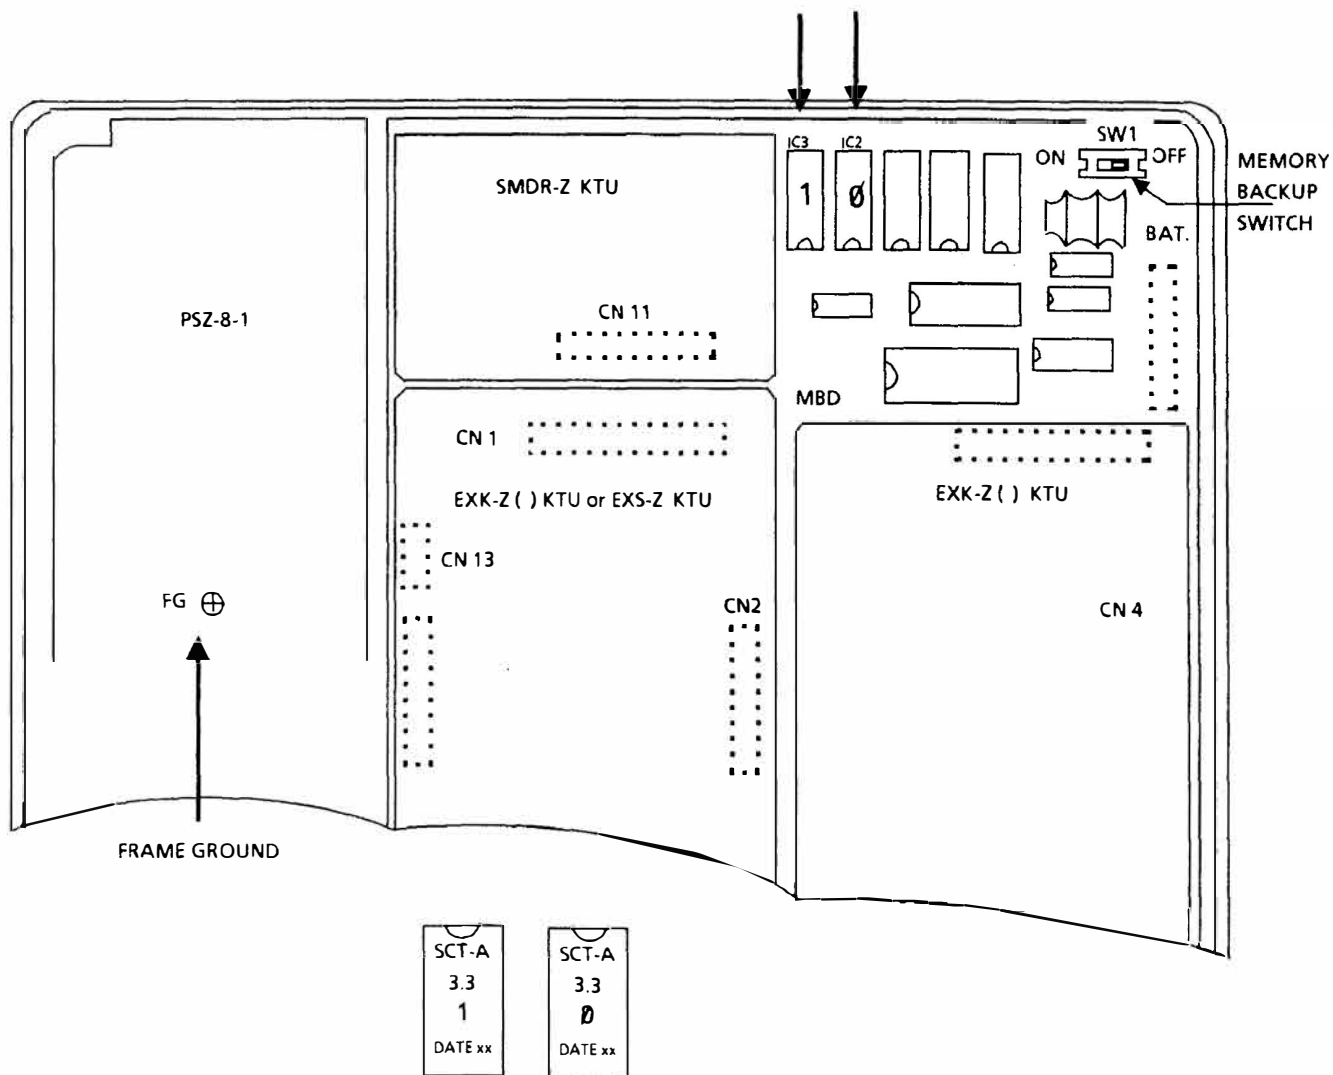

Figure 3-1 Installing the EPROM Upgrade Chips
- The work mat should then be attached to the KSU at the FG (frame ground) screw on the power supply (refer to Figure 3-1 Installing the EPROM Upgrade Chips).
- C. Locate and turn off the memory backup switch (SW1) on the KSU (refer to Figure 3-1 Installing the EPROM Upgrade Chips).
- D. Remove EPROM chip (Number 0) from the IC2 socket and EPROM chip (Number 1) from the IC3 socket. (Refer to the procedures accompanying the chip insertion/extraction kit.) A total of two EPROMs should be removed from the ESZ-8-() KSU. (Refer to Figure 3-1 Installing the EPROM Upgrade Chips.)
- E. Insert EPROM SCT-A 3.3 (or higher revision) (Number 0) in the IC2 socket and SCT-A 3.3 (or higher level) (Number 1) in the IC3 socket, making sure that the notches on the EPROMs are lined up with the notches on the circuit board. (Refer to Figure 3-1 Installing the EPROM Upgrade Chips.) (Refer to the procedures accompanying the chip insertion/extraction kit.) A total of two EPROMs should be placed back into the ESZ-8-() KSU.